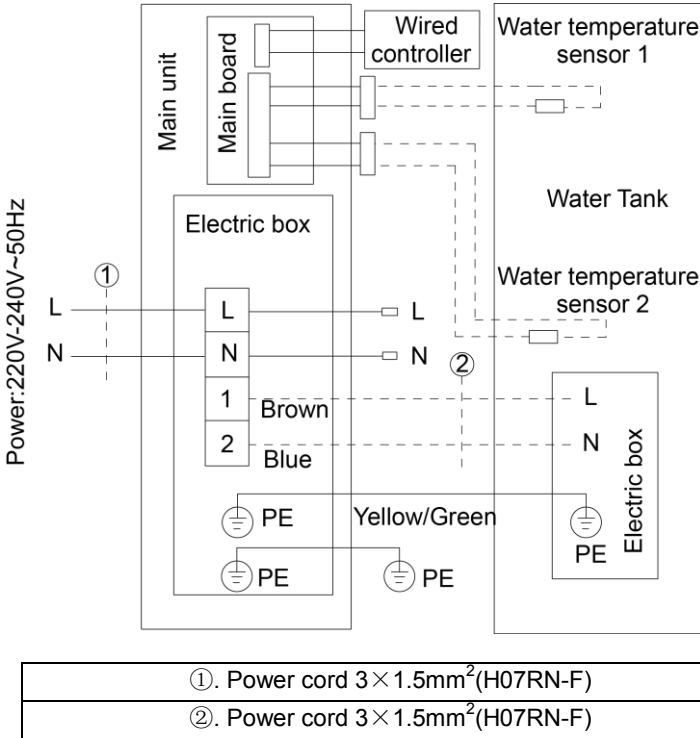

Figure 9-1 External wiring for NGRS-S3.5PdG mapping
- (1) Unscrew the screw on the connection box cover on the right side panel of the main unit to open the connection box cover. Figure 9-1 shows the external wiring.